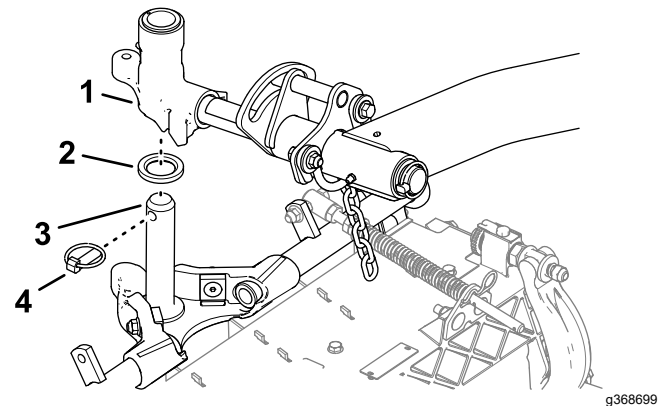

Figure 16
1. Slide a cutting unit under the lift arm (Figure 16).